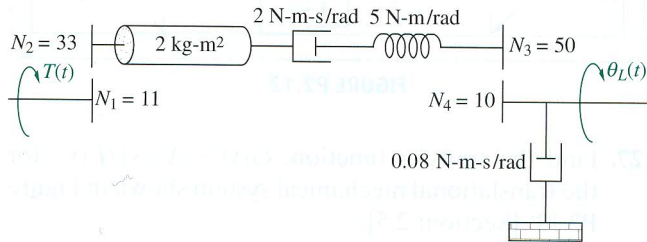

FIGURE P2.22
36. For the rotational system shown in Figure P2.22, find the transfer function,  $G(s) = \theta_L(s)/T(s)$ . [Section: 2.7]